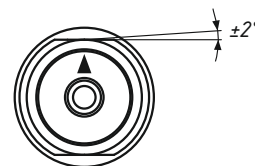

Fig. 2. Sensor orientation for low level control
- Install the sensor into the sight glass port. Orientation of the sensor for low level control - arrow up. The orientation of the sensor for upper level control is with an arrow pointing down. Figure: 2, 3.
- Place the sensor case horizontally along the flats. Figure: 2, 3. The maximum possible deviation is $\pm 2^\circ$.